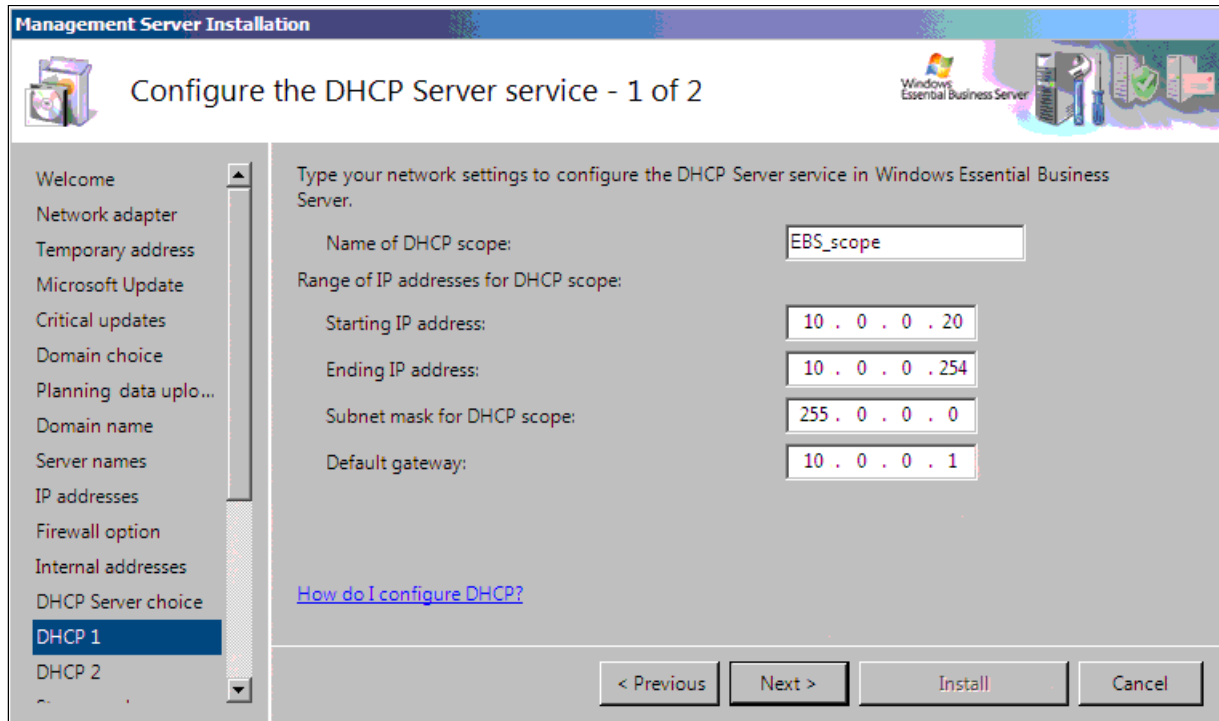

Figure 4-16 Configure the DHCP Server service - 1 of 2
23. On the “Configure the DHCP Server service - 1 of 2” panel (Figure 4-16), review the suggested name for your DHCP Server service scope, make any desired changes, and type your desired settings to define the range of the DHCP Server service scope. In our example, our service scope is 10.0.0.20 through 10.0.0.254.